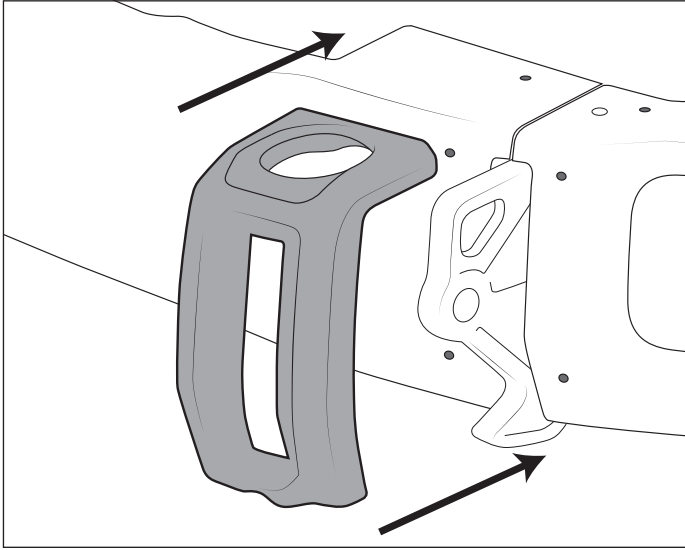

Figure 22
1. Install one of the tow loop bezels using M6x20 bolts and washers (fig. 22). Hand tighten.